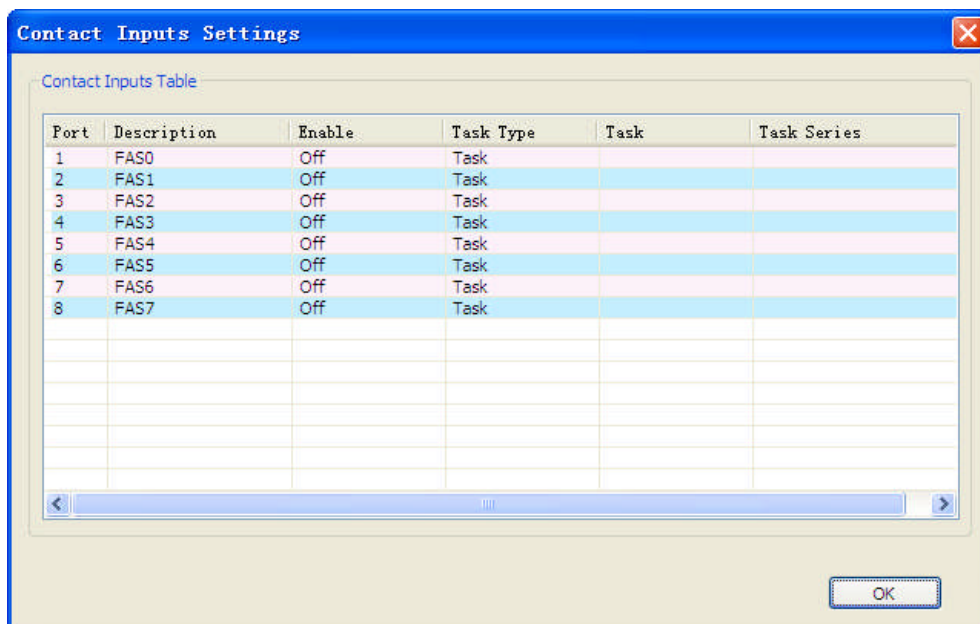

Figure 27 **Contact Inputs Settings** window
1. Click **Contact Inputs** on the subsystem on the right of window as shown in the Figure 7, the Contact Inputs Settings window displays as shown in the Figure 27.